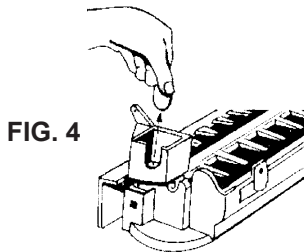

FIG. 4
4. Remove knock-out from end as indicated in Figure 4.